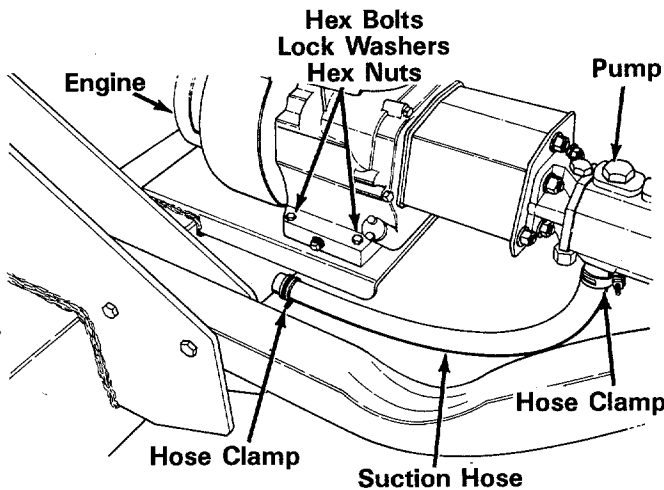

FIGURE 7
2. Place the engine and pump assembly in position as shown in figure 7. Secure with hardware just removed. **Tighten securely.**
2. Attach one end of the hose to the fitting on the bottom of the pump. Attach the other end to the reservoir tank. See figure 7.